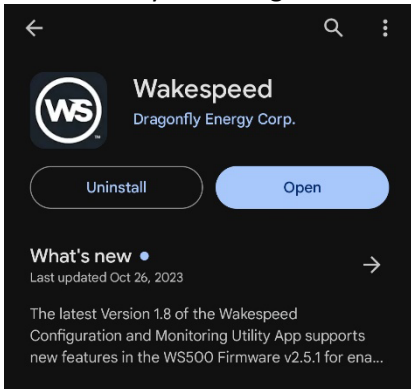

Figure 12
- Open Wakespeed app on the android device. If it's not installed yet, install the Wakespeed app (see Figure 12) on the device by searching for it in the Google Play store and selecting install.